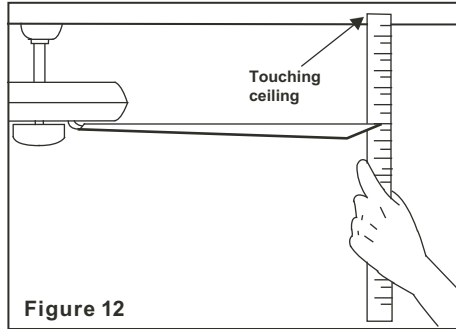

Figure 12
2. Most fan wobbling problems are caused when blade levels are unequal. Check this level by selecting a point on the ceiling above the tip of one of the blades. Measure this distance as shown in Figure 12. Rotate the fan until the next blade is positioned for measurement. Repeat for each blade. The distance deviation should be equal within $1/8''$.